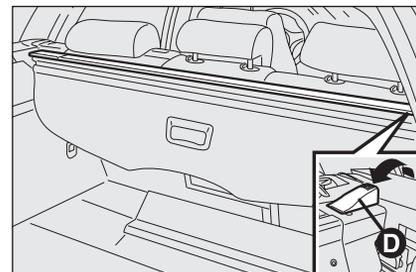

fig. 19
**IMPORTANT** To remove the net roll it up and check whether also the passenger's compartment separation net (where provided) is rolled up (see next paragraph), then pull up lever **D-fig. 19**. Raise the net and take it out from the boot.
- keep the lever **D-fig. 19** up and fit the net into the proper seat on the right side;